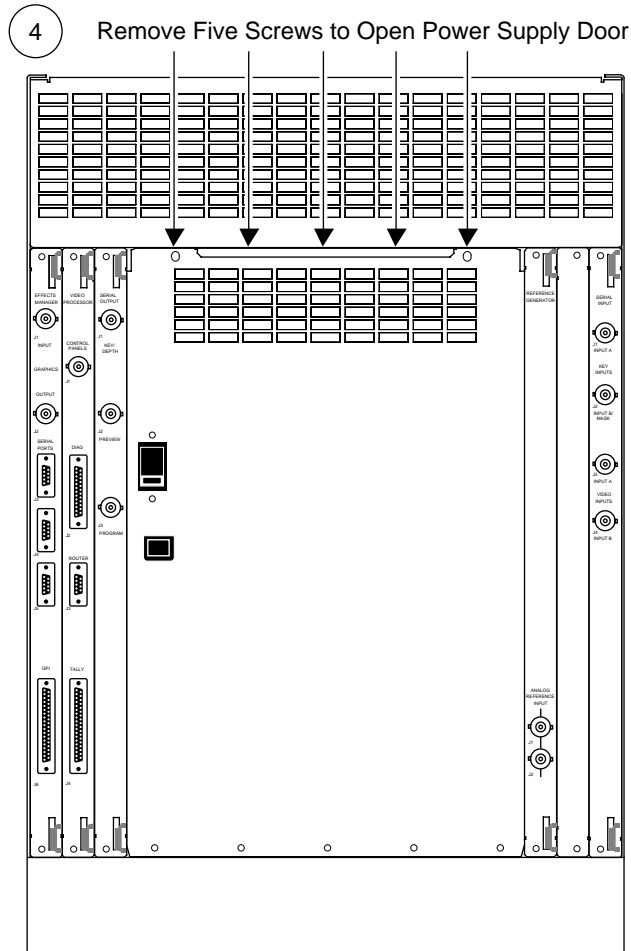

Figure 5-11. Opening Video Processor Frame Power Supply Door
4. Remove the five screws holding the power supply door closed and open the door (Figure 5-11).